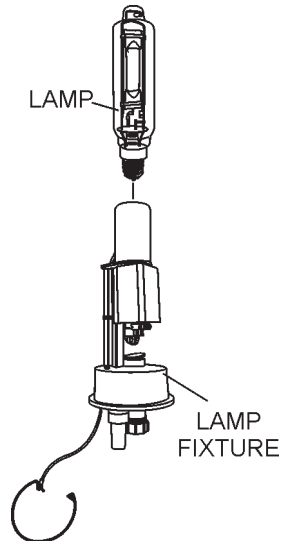

Figure 5. Inserting the Lamp
5. Screw the lamp into the lamp fixture as shown in Figure 5.